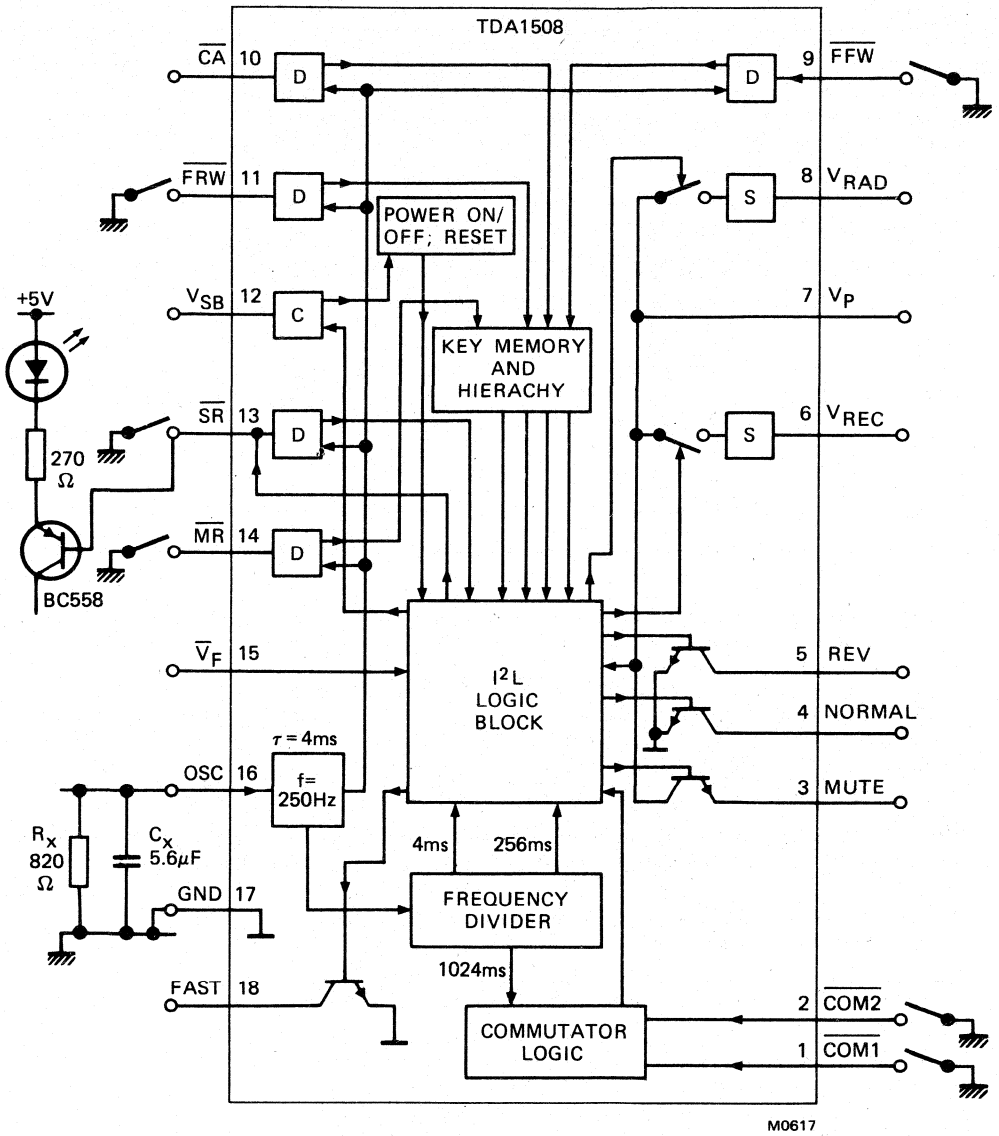

Fig.2 Block diagram
**MUTE (pin 3).** The audio output of the cassette is muted in the radio mode and during any change in motor rotation (reverse, fast forward wind, etc). The n-p-n transistor (Fig.2) is switched to  $V_P$  when muting is required. The audio frequency is muted up to 128 ms after the change of mode or motor rotation.